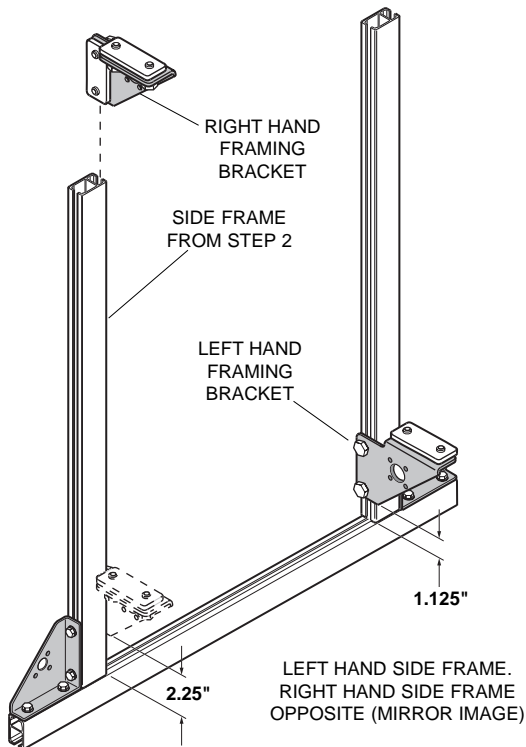

Figure 3.
- Assemble four 42.38" long uprights to angle brackets on base rails as shown in Fig. 3. Wrench tighten to secure.
- Locate one right-hand and one left-hand framing bracket. Slide framing brackets onto side frame uprights on one side frame assembly as shown in Figure 3. Position as shown and tighten. Repeat for other side frame assembly.